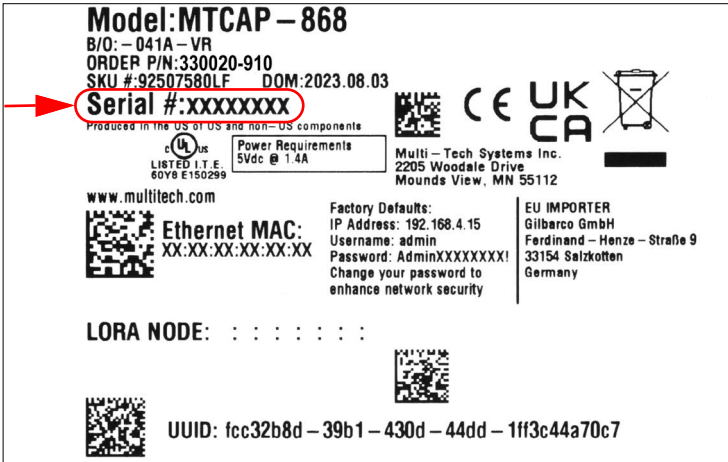

Figure 17. Example Gateway Label – Serial Number
4. Read the Gateway serial number from the label on the rear of the unit. The serial number can be found on the label as depicted in Figure 17.
5. Read the replacement Gateway serial number from the label on the rear of the unit (see Figure 17).